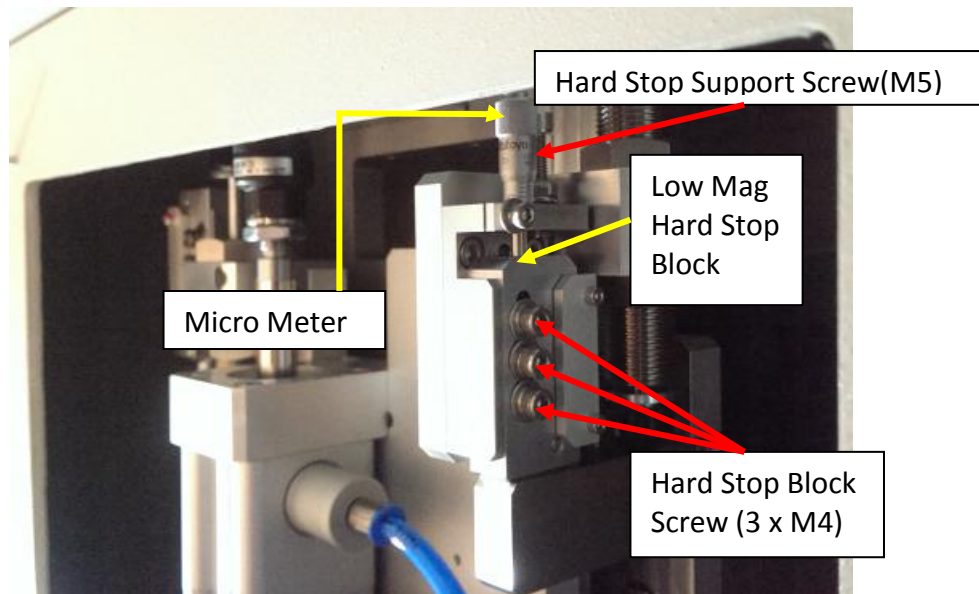

Figure 9 (New Rev)
12. Log Mag Hard Stop and screws show as Figure 9.